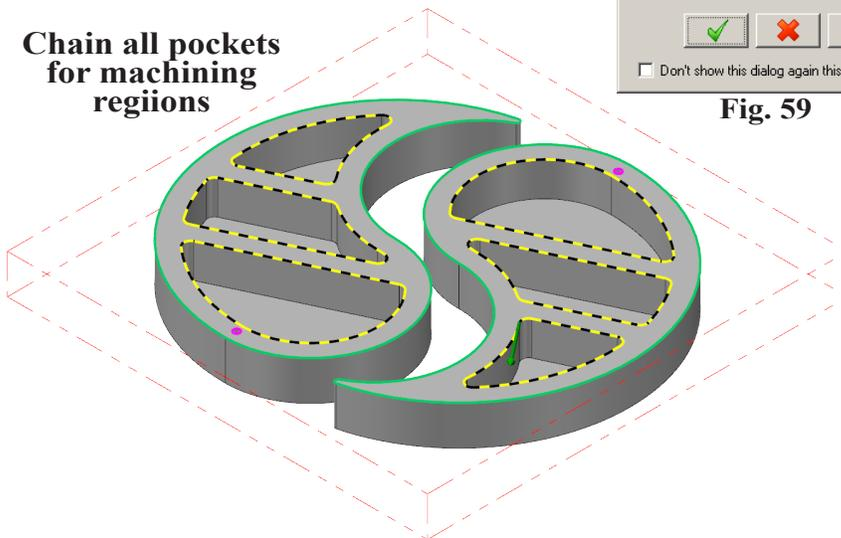

Fig. 61
Step 5. Click **any geometry of each pocket** to chain all pockets and click OK  in Chain dialog box, **Fig 61.**